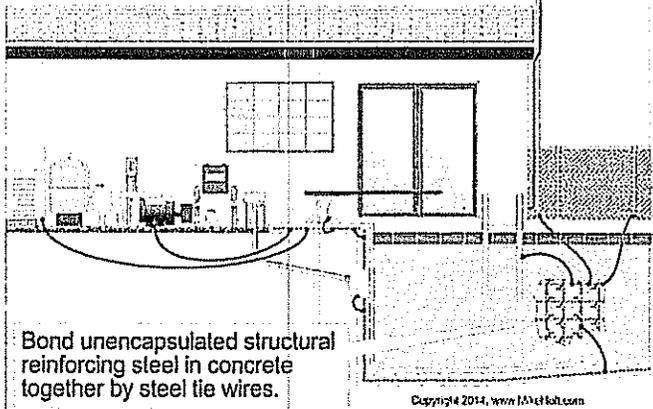

Figure 680-41
**(a) Structural Reinforcing Steel.** Unencapsulated structural reinforcing steel in concrete shells must be bonded together by steel tie wires. Figure 680-41